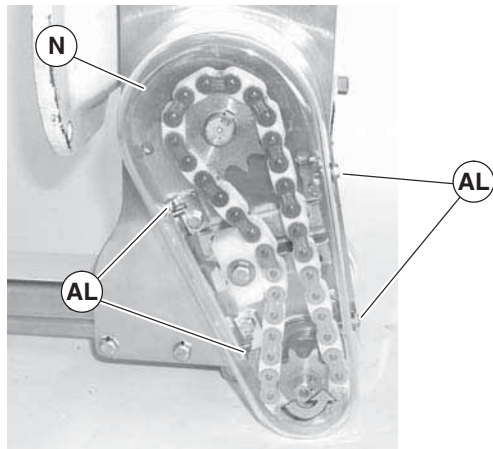

Figure 28
- Loosen four screws (Figure 28, item AL) and remove cover (N).
Do not over-tighten screws (Figure 28, item AL).
- Install cover (Figure 28, item N) and tighten four screws (AL) to 35 in-lb (4 Nm).